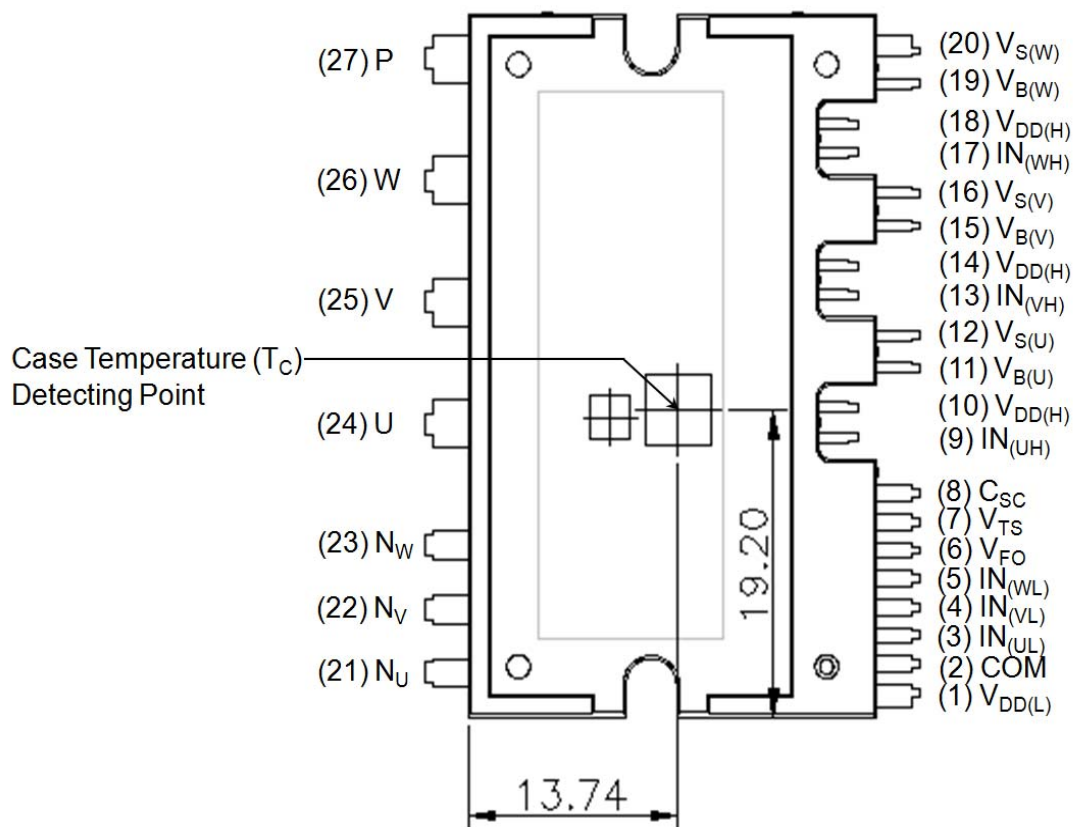

Figure 2. Top View
| $T_C$                 | Module Case Operation Temperature                                          | See Figure 2                                                                                                 | -40 ~ 125 | $^\circ\text{C}$ |
- For the measurement point of case temperature ( $T_C$ ), please refer to Figure 2.